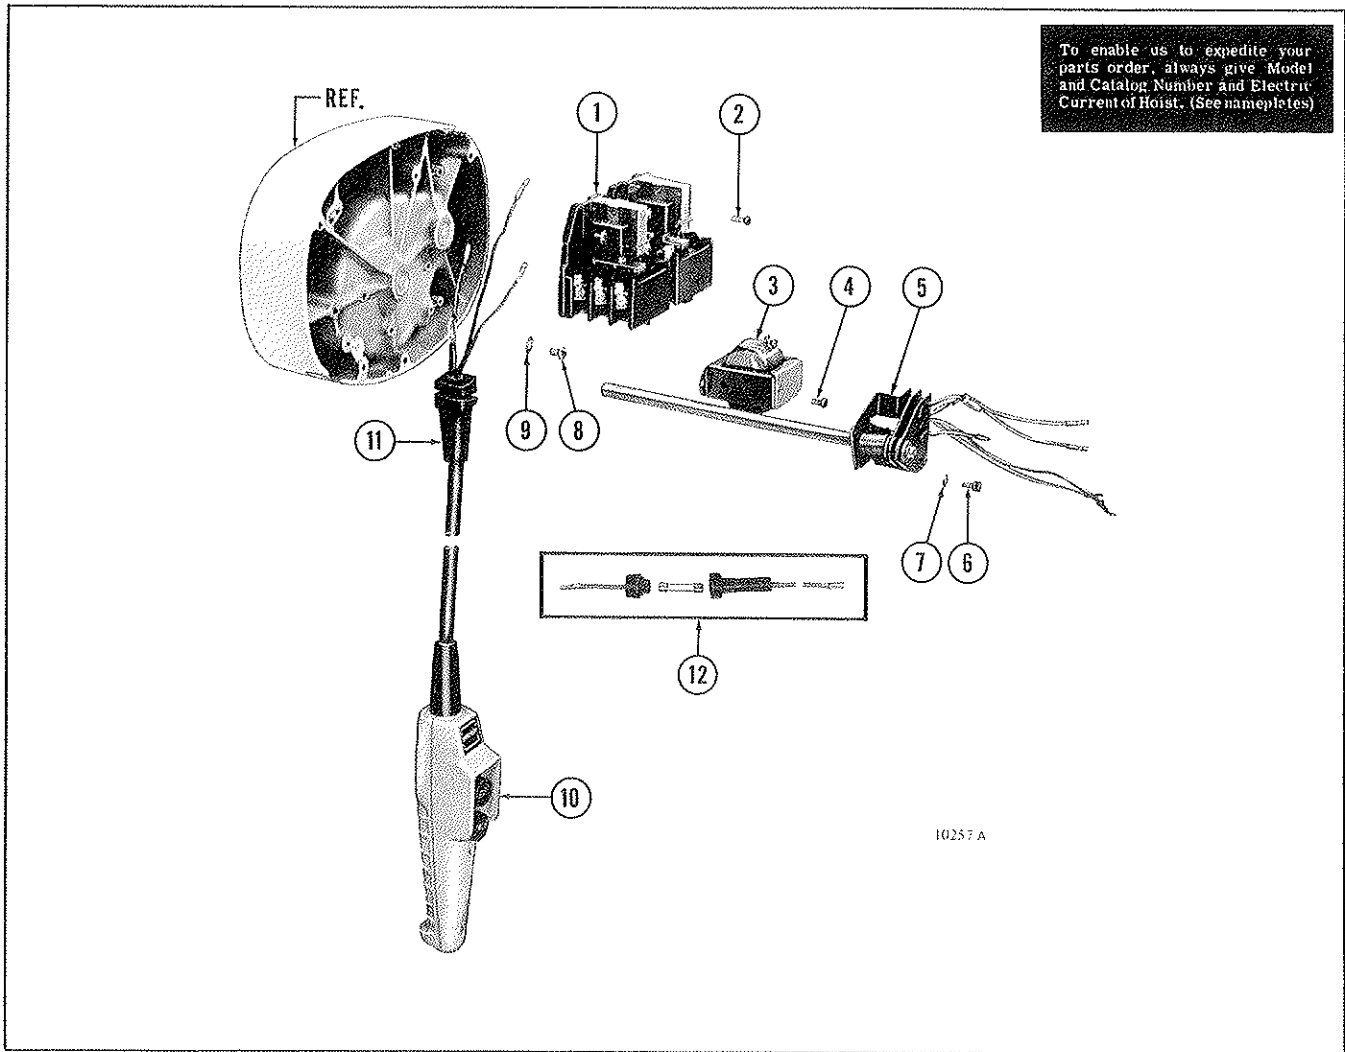

Figure 10. ELECTRICAL CONTROL UNITS – EXPLODED VIEW
**See Fig. 10 for illustration.